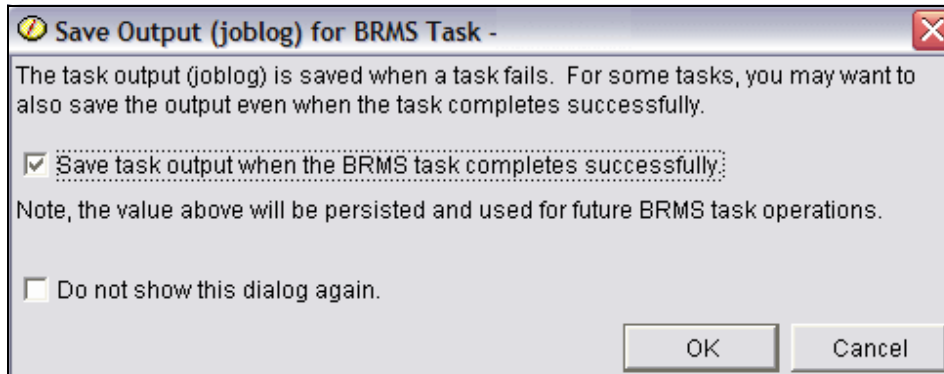
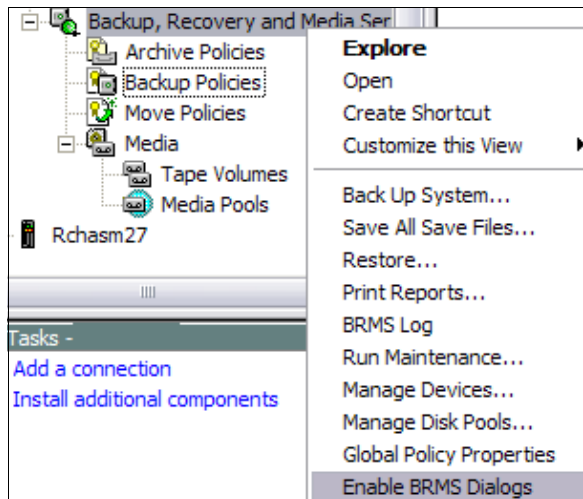

Figure 8-3 Save joblog
Figure 8-4 Dialog boxes
When done, specify whether you want the joblog or not. This job is supposed to fail so that a joblog is produced. Select any of the options in the window shown in Figure 8-3 on page 434, then click **OK**.
6. If for some reason you selected **Do not show this dialog again** in Figure 8-3, but want to get the dialog boxes again, right-click **Backup, Recovery and Media Services**, and select **Enable BRMS Dialogs**, as shown in Figure 8-4.